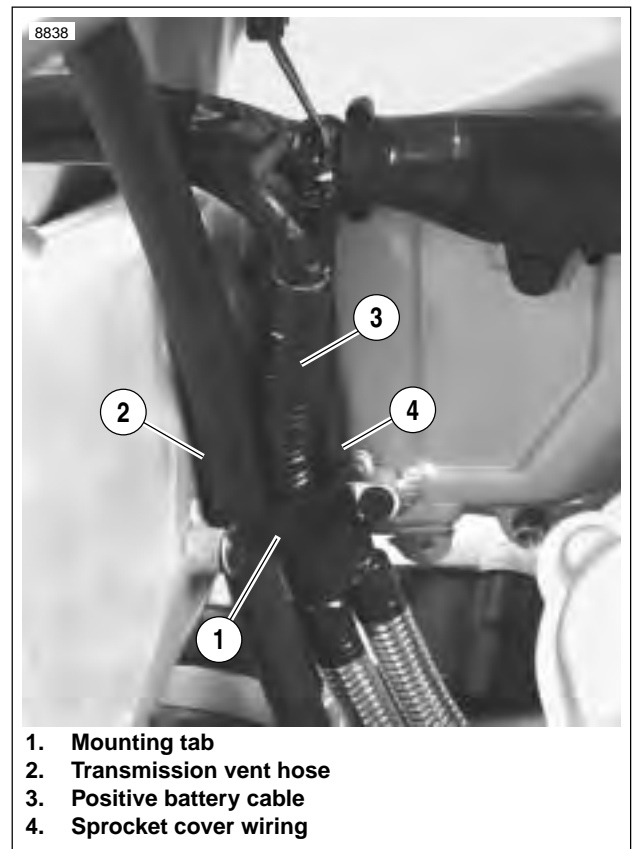

Figure 7-81. Corner Mounting Tab
6. See Figure 7-81. Route portion of main wire harness that contains the positive battery cable (3), sprocket cover wiring (4) and transmission vent hose (2) through corner mounting tab (1) at rear of frame. Install **new** plastic tree fasteners.